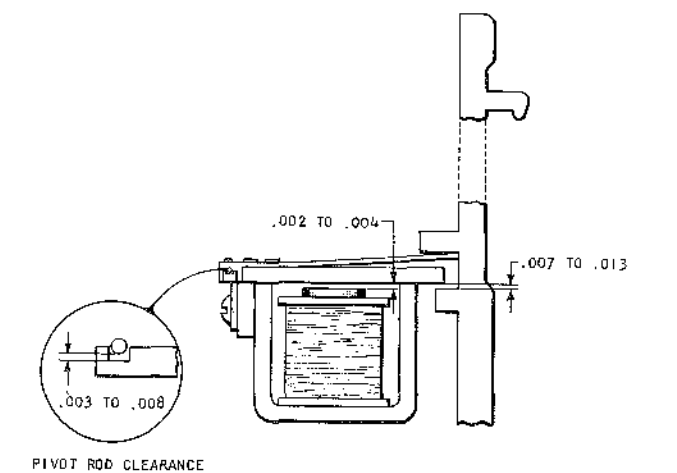

Figure 49. Punch Magnet Adjustments
Punch Magnet Yoke Assembly Adjustments (Figure 49)
3. Check for .007" to .013" clearance between the lower side of the armature and the latch at both the column 1 and column 80 ends of the unit (Figure 49).
- b. Loosen the magnet unit adjusting lock nuts and adjust the screw for .007" to .013" clearance between the armature and the latch (Figure 49). The magnet unit locating screws hold the magnet unit against the adjusting screws.
a. Check for .007" to .013" latch overthrow (Figure 49).